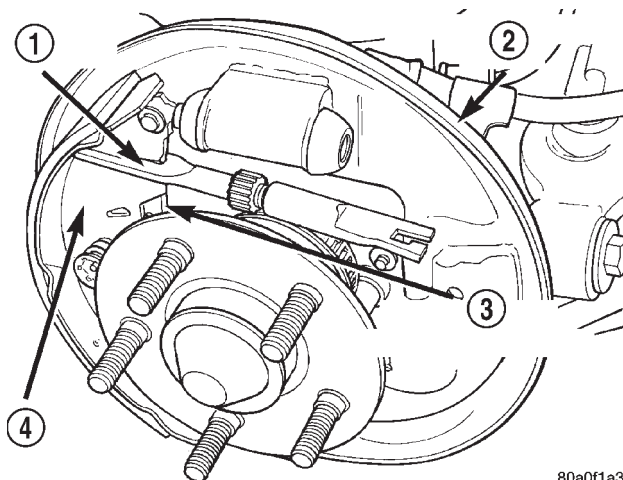

Fig. 107 Automatic Adjuster
(8) Remove the leading brake shoe from the brake support plate.
(9) Remove the automatic adjuster (Fig. 107) from the trailing brake shoe and park brake actuating lever.
(6) Install the automatic adjuster on the trailing brake shoe and park brake actuating lever (Fig. 107).